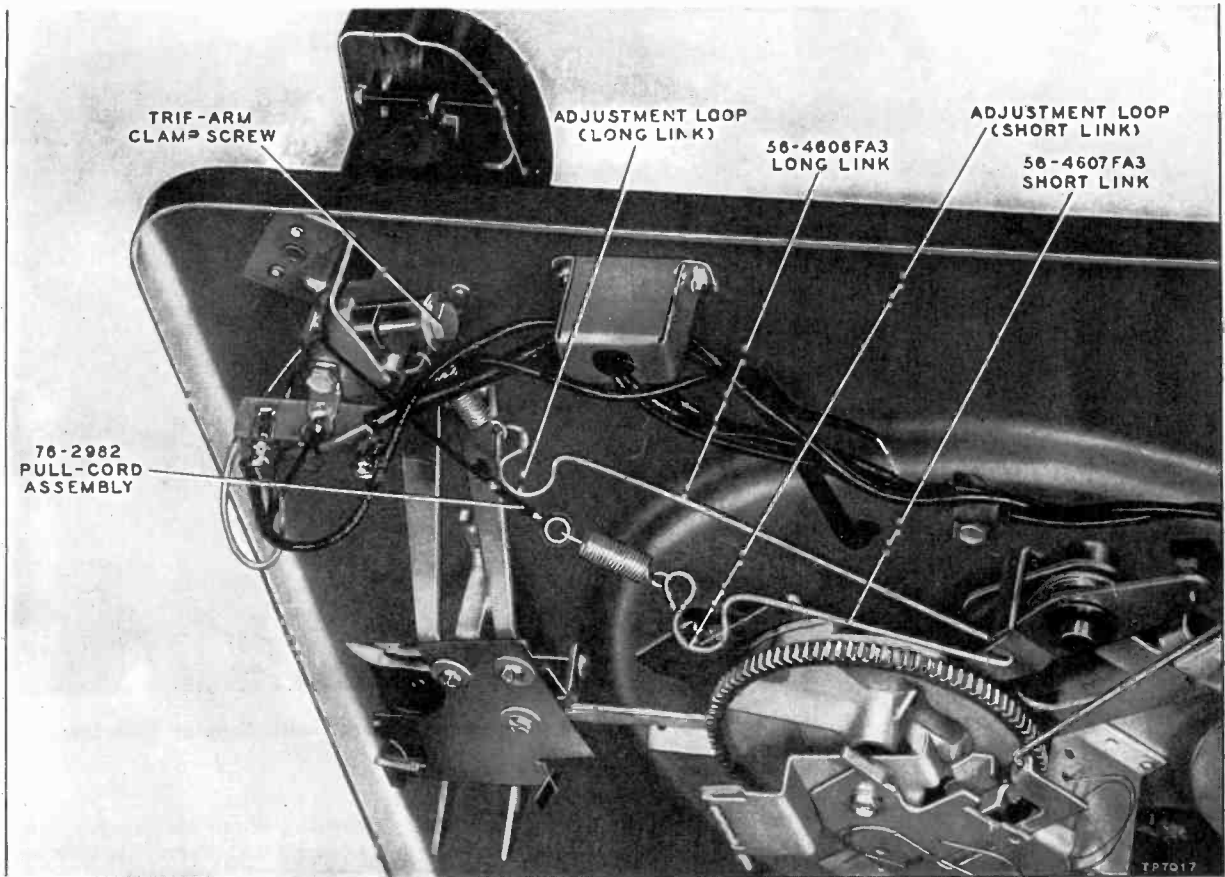
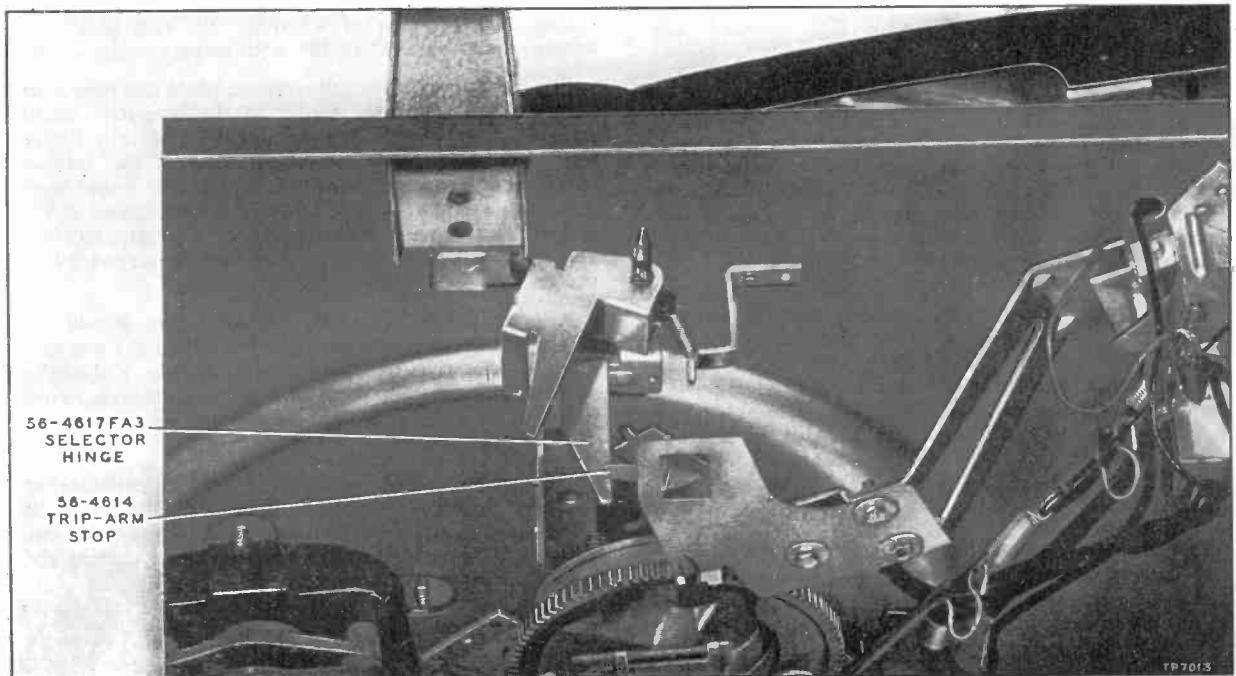
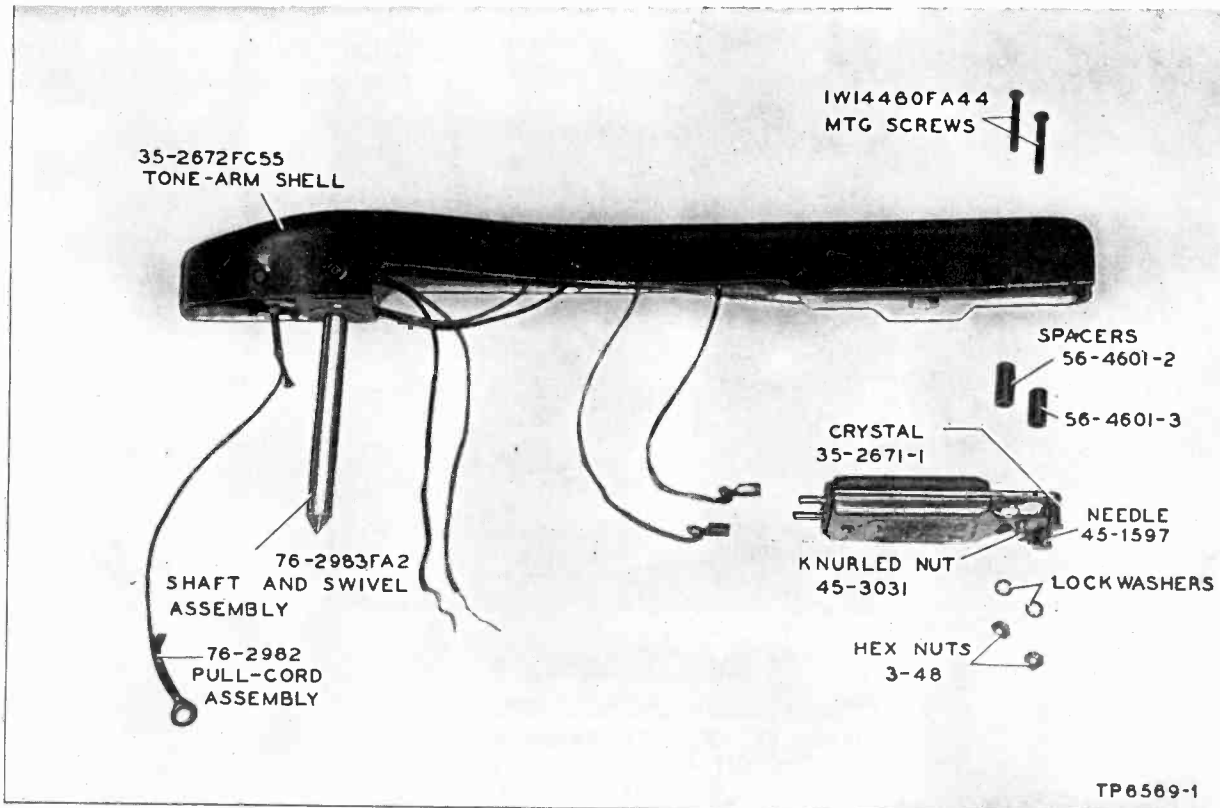

Figure 12. Loop Adjustments and Trip-Arm Clamp Screw
Figure 13. 10' Indexing Adjustment
Figure 22. Record-Changer Tone-Arm Assembly, Part No. 35-2663-2
Loosen the clamp screw on the trip arm (figure 12). Hold the tone arm (steady) $\frac{1}{8}$ " in from the edge of the record, and set the trip arm so that the trip-arm stop is in contact with the selector hinge (Part No. 56-4617FA3). See figure 13.
For the vertical adjustment, start with the changer out of cycle. Push the REJ.—AUT.—MAN. control to REJ., and rotate the turntable, by hand, three-quarters of a revolution; this setting can be obtained more accurately by making a mark on the turntable to coincide with some starting point. At the three-quarter-revolution point, the leading edge of the cam surface is approximately $\frac{1}{4}$ " from the end of the lift actuator lever, Part No. 76-4193; this is the lower actuator lever, shown in figure 17. Adjust the wire loop of the short link, cord, and spring assembly (figure 12), attached to the tone-arm lift pin, by squeezing or opening the loop until the tone-arm lift pin makes contact with the lower ear of the tone-arm swivel.
For the horizontal adjustment, rotate the turntable another three-quarters revolution from the point at which the vertical adjustment was made. At this point, the leading edge of the cam surface is approximately $\frac{1}{4}$ " from the end of the horizontal-return actuator lever; this is the upper actuator lever, Part No. 76-2987, shown in figure 18. Adjust the wire loop of the long link and spring assembly (figure 12), attached
- c. Drop cartridge below tone arm sufficiently to allow removal of the two clips from cartridge, as shown in figure 22. If pickup leads are shielded, unsolder shield.
- b. Loosen clamp screw which holds trip arm to tone-arm shaft, Part No. 76-2983FA2 (figure 12). Lift out tone arm and shaft. The tone-arm assembly is shown in figure 22.